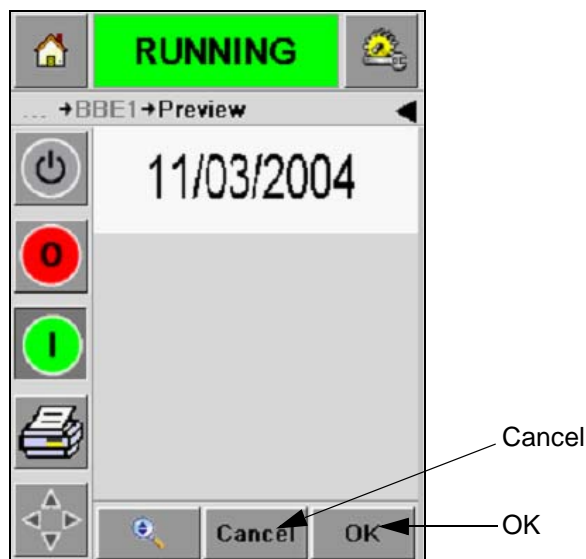

Figure 5-6: Job Preview
If you must cancel the process of job selection, touch the *Cancel* button or the *Home* button (refer to Figure 5-6 on page 5-5).
- 4 When you select the required job, the CLARiTY displays a print preview of the selected job (Figure 5-6).
- 5 Touch the OK icon after the information displayed is correct (Figure 5-6). The printer starts printing the job.